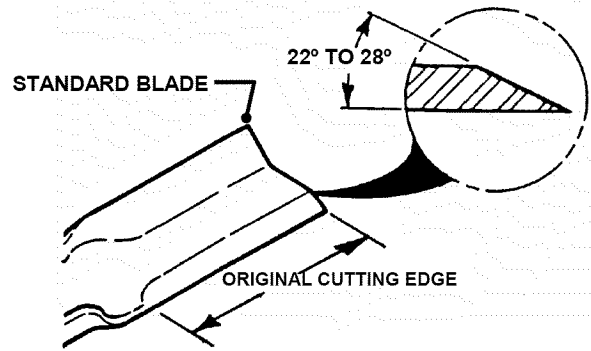

FIGURE 4.24
5. If a blade is in good condition, sharpen cutting edge at an angle of 22 to 28 degrees. **DO NOT** sharpen beyond existing cutting edge. Replace blades not in good condition. See Figure 4.24.